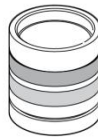

Fig. 3: Position of the hose rings
- ▶ Make sure that the 2 hose rings are in the correct position (see Fig. 3, p. 16).